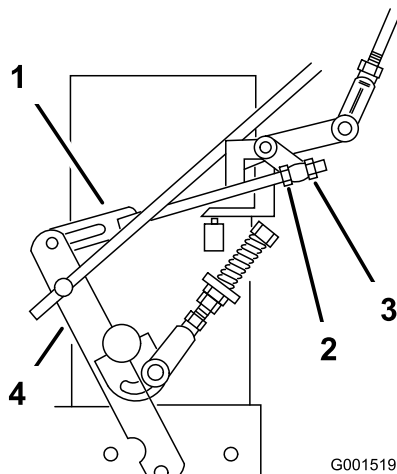

Figure 48
9. Loosen the front adjusting nut on left hydro control linkage as shown in Figure 48.
10. Turn the left rear adjusting nut counter-clockwise until wheel rotates forward (Figure 48).
11. Turn the rear adjusting nut clockwise 1/4 of a turn at a time. Then move the speed control lever forward and back to neutral. Repeat this until left wheel stops rotating forward (Figure 48).
15. Tighten the front nut on left hydro control linkage shown in Figure 48.